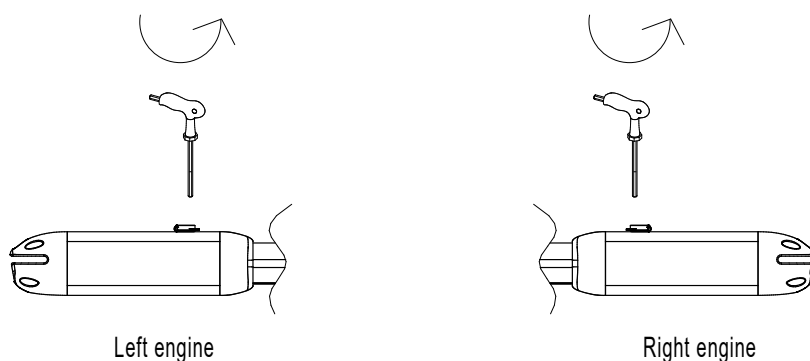

Figure 6
d) Before the installation, please unlock the two main machines. Unlock method: Remove the cover, insert the manual release bar, rotate the bar until it's released, as shown in Figure 6, then turn the telescopic arm, you'll find it is stretched easily.